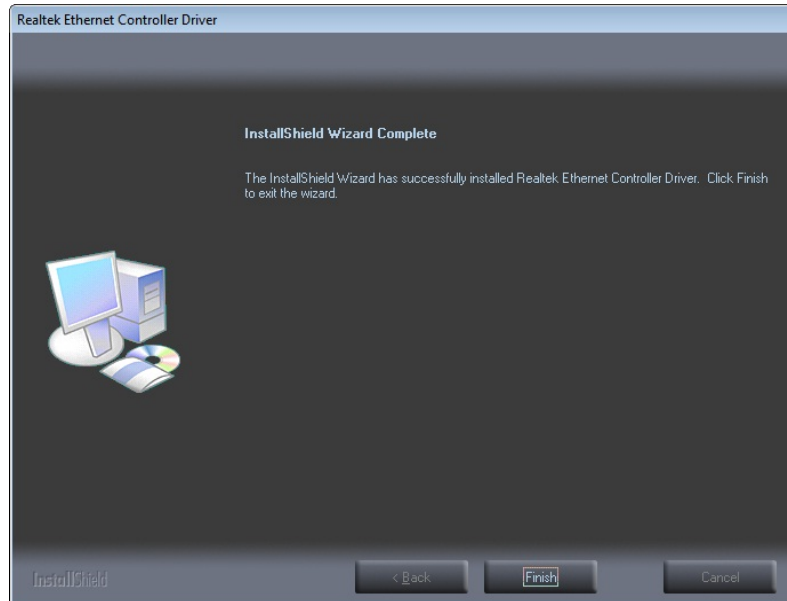

Figure 6-13: LAN Driver Installation Complete
Step 9: When the driver installation is complete, the screen in **Figure 6-13** appears.